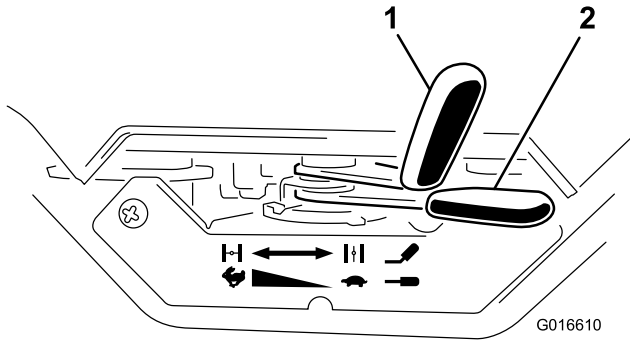

Figure 12
1. Move the choke lever to the On position (Figure 12).
2. Move the throttle lever one third of the way to the Fast position (Figure 12).